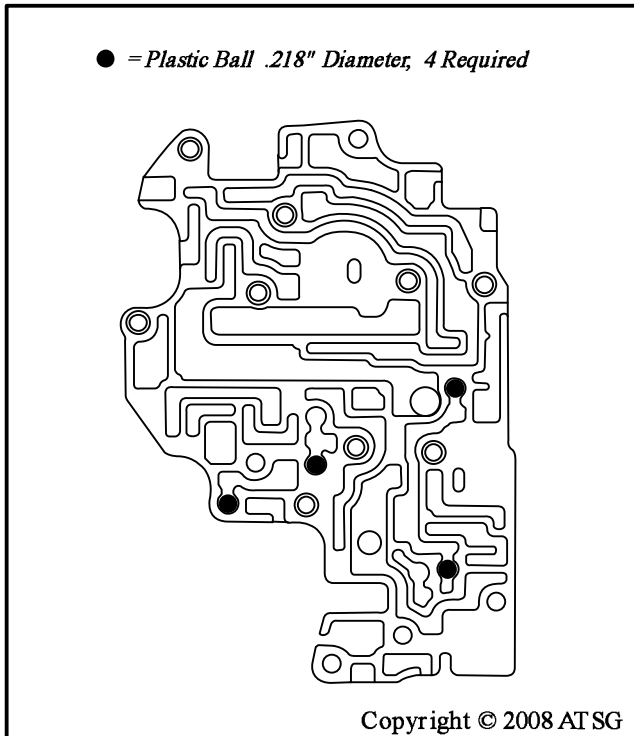

Figure 170
33. Install four plastic check balls in their proper locations, as shown in Figure 170.